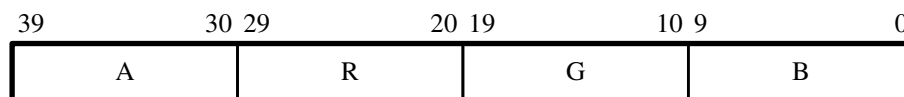

Figure 15. 40-bit RGBA Color Space.
- 40-bit RGBA — This format contains alpha values as well as RGB and uses 10 bits of each color as shown in Figure 15. This mode is defined as 10 bits per symbol and four symbols per beat.